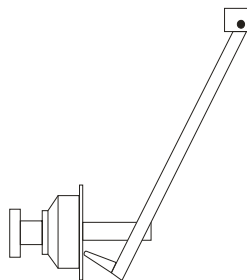

Figure 8-1
8.2.3 Moving the measuring scale, rotating the handle bar and make the ruler head to the endge of the rim inside shown as figure 8-1, press [ALU] and put back the measuring scale when LCD screen prompt ending calibration.
8.3.3 8.3.3 According to the prompts, swing the width scale, and make the ruler head to the flange of the main shaft shown as figure 8-1, press [ALU] and put back the measuring scale when LCD screen prompt ending calibration.